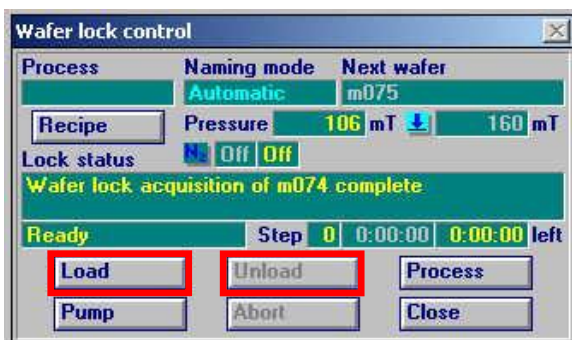

Fig.3: Wafer lock control window
4.2.1 In the **Wafer lock control** window (*Fig.3*), press the **Unload** command to vent the Load lock. Wait for the load lock to come at atmospheric pressure, observe the decreasing pressure on the O-ring seal through the transparent load lock lid.